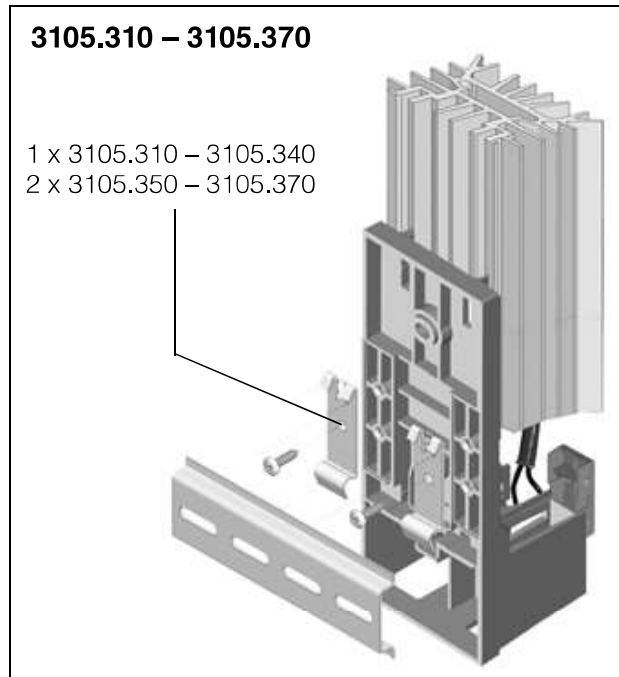

Fig. 2: Snap-type fastening onto a 35 mm support rail EN 60 715
1	Assembly instructions Assembly parts (see fig. 2)
1. Snap-type fastening onto a 35 mm support rail EN 60 715 (fig. 2).